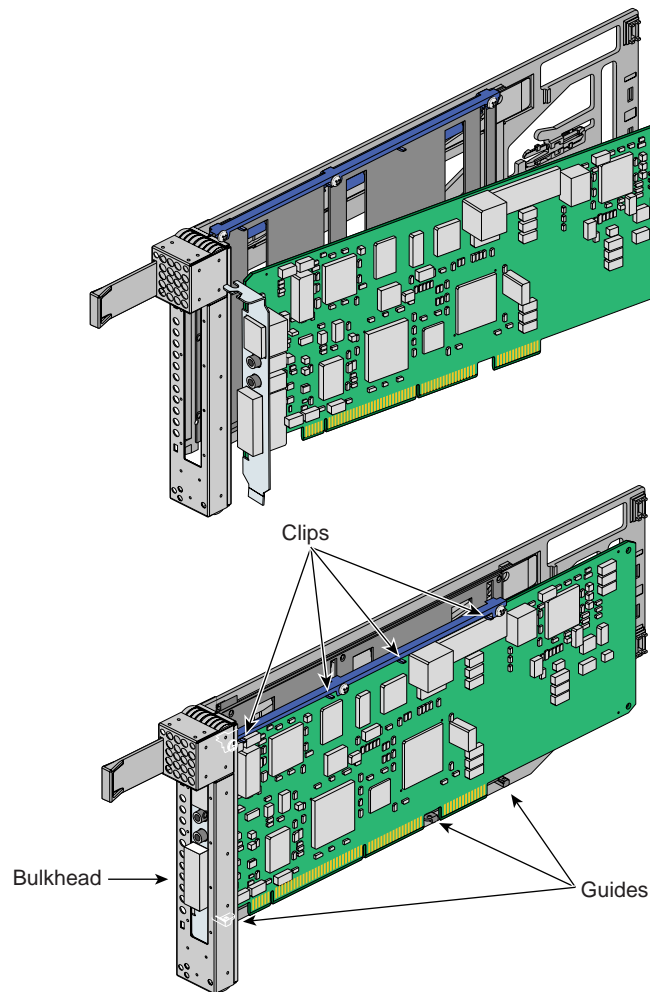

Figure 6-20 Mounting Card in Carrier
- c. Mount the card in the carrier, (see Figure 6-20) and ensure the following occurs: